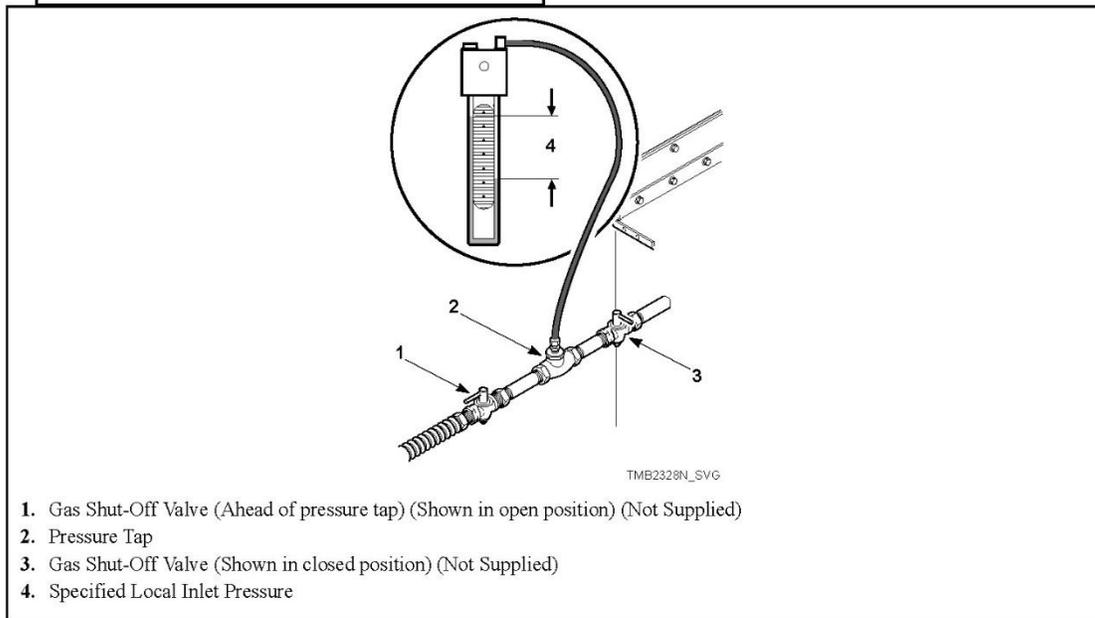

Figure 17
1. Disconnect electrical power from tumble dryer. Close gas shut-off valve to tumble dryer. Refer to *Figure 17*.